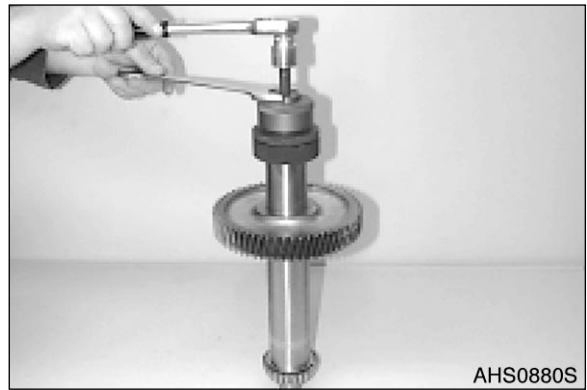

Figure 129
5. Pull inner bearing race from the shaft (Figure 129).